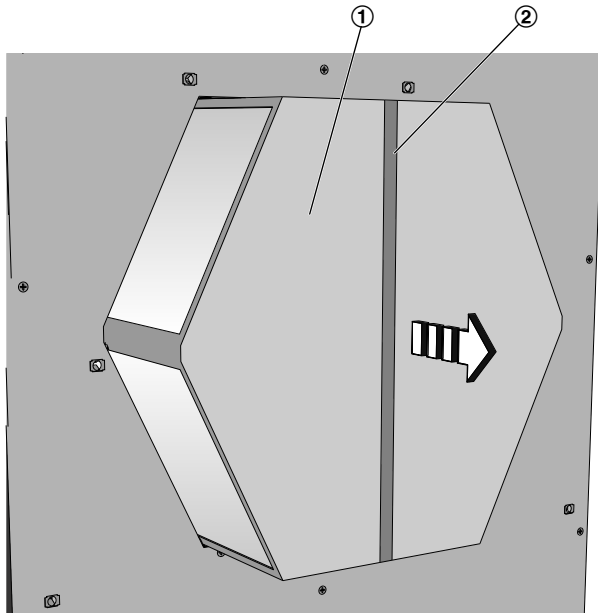

Fig. 27: Removing the heat recovery unit
3. ▶ Grasp the heat recovery unit (Fig. 27/1) by the lug (Fig. 27/2) and pull it out.
Rinse the heat recovery unit (Fig. 27/1) with hot water (40 °C max.), e.g. by using a commercially available shower head.